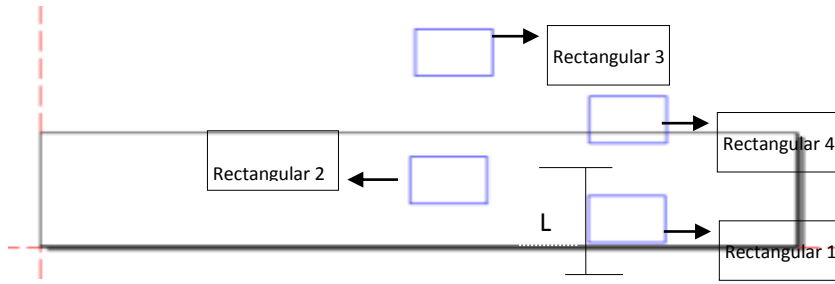

Fig.4-3
1. The graph exceeds the breadth of the machine, but single curve doesn't exceed the breadth, as shown in Fig.4-3: